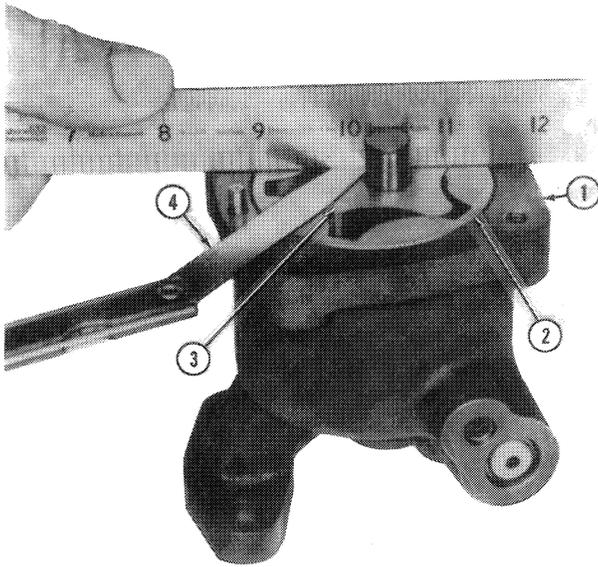

Figure 37
3. Use a straight edge and feeler gauges to measure the endplay between the inner rotor and the pump body and measure the clearance between the outer rotor and the pump body, Figure 37.